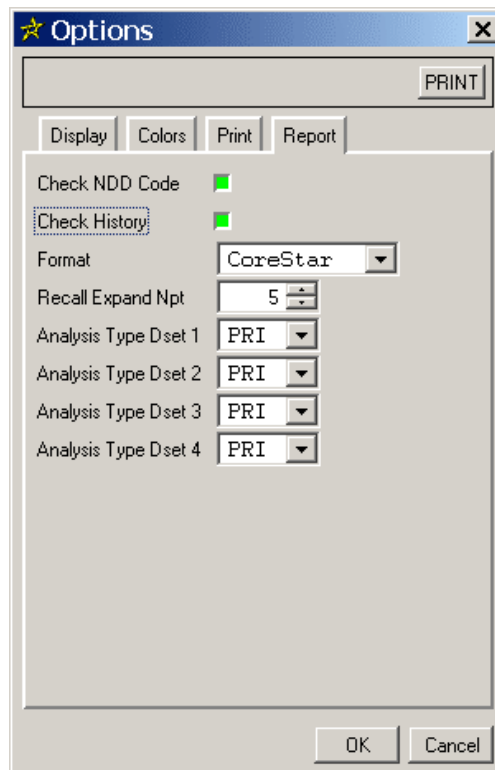

Figure 1-3. Options Dialog - Report Tab
- STEP 4:** The **Report** tab should look like Figure 1-3. Click **OK**.